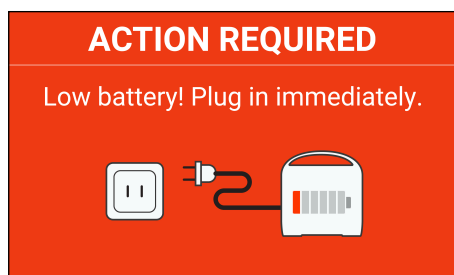
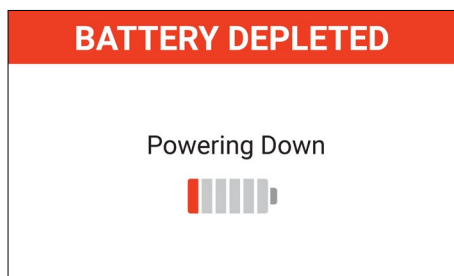

Figure 20. Low battery alert
Figure 21. Terminal battery shutdown alert
When the battery reaches approximately 2 hours of remaining run time, an alert will notify the user to plug in to AC power to avoid interruption in therapy. (Fig. 20) If being used on a bed or seat, an auditory alert will sound for three (3) minutes every hour while the alert is active. If being used on the procedure table, an auditory alert will sound for five (5) seconds every hour while the alert is active. The low battery alert screen will be dismissed by either plugging the controller into AC power or by pressing discharge on the screen. If a terminal shutdown occurs (Fig. 21) the patient's information will be cleared from the system.